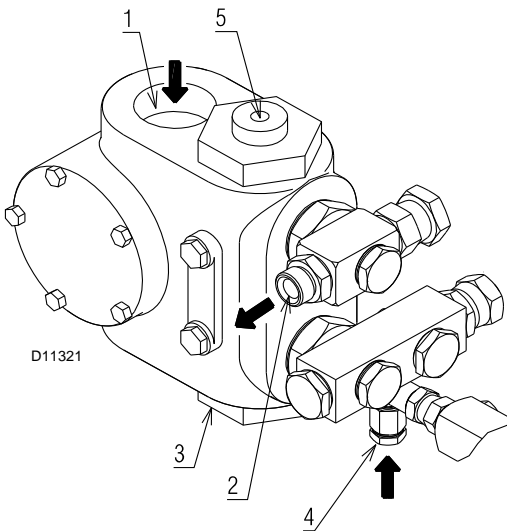

Fig. 20
Key (Fig. 20)
- In order for self-priming to take place, the screw 4) on the pump (Fig. 20) must be loosened to bleed off the air contained in the suction line.
If the pump has been drained, fill it with fuel through the opening on the vacuumeter 4)(Fig. 20) prior to starting; otherwise, the pump will seize.